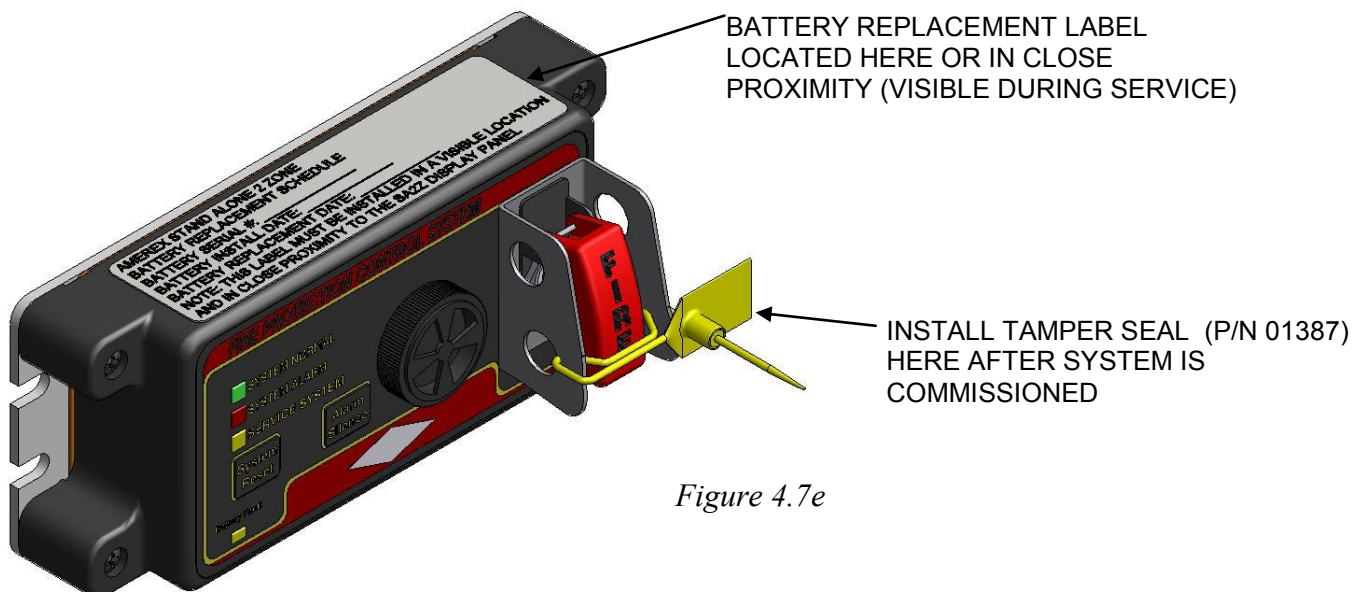

Figure 4.7e
**Step 11** - Install the populated Battery Replacement Label on or in close proximity to the Operator Panel. The Battery Replacement Label must be visible during normal service (See Figure 4.7e).
**Step 12** - Each Operator Panel is supplied with a Tamper Seal (P/N 01387). Install this seal on the manual release switch in the location shown (See Figure 4.7e).